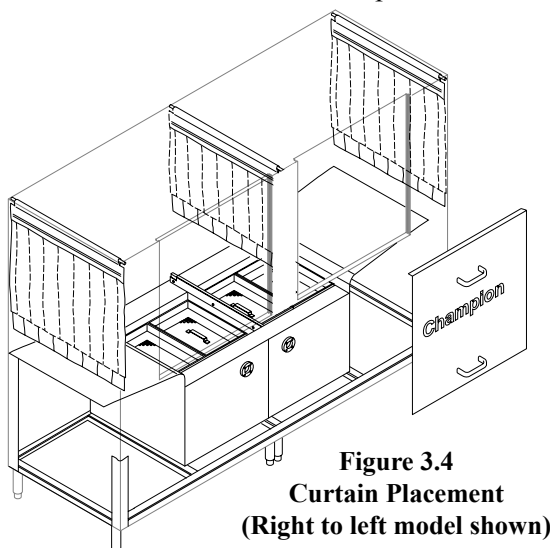

Figure 3.4
1. Check that spray arms, curtains, scrap screens, and doors are in place. Refer to Figures 3.4 and 3.5 below.